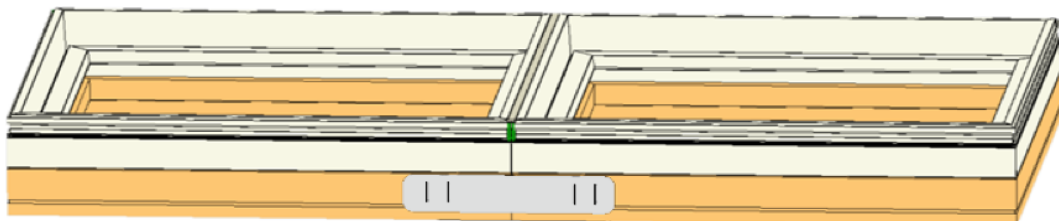

Figure 8
J. Apply gusset plates to mull joints using two 1/2", 16 gauge staples per side (figure 8).